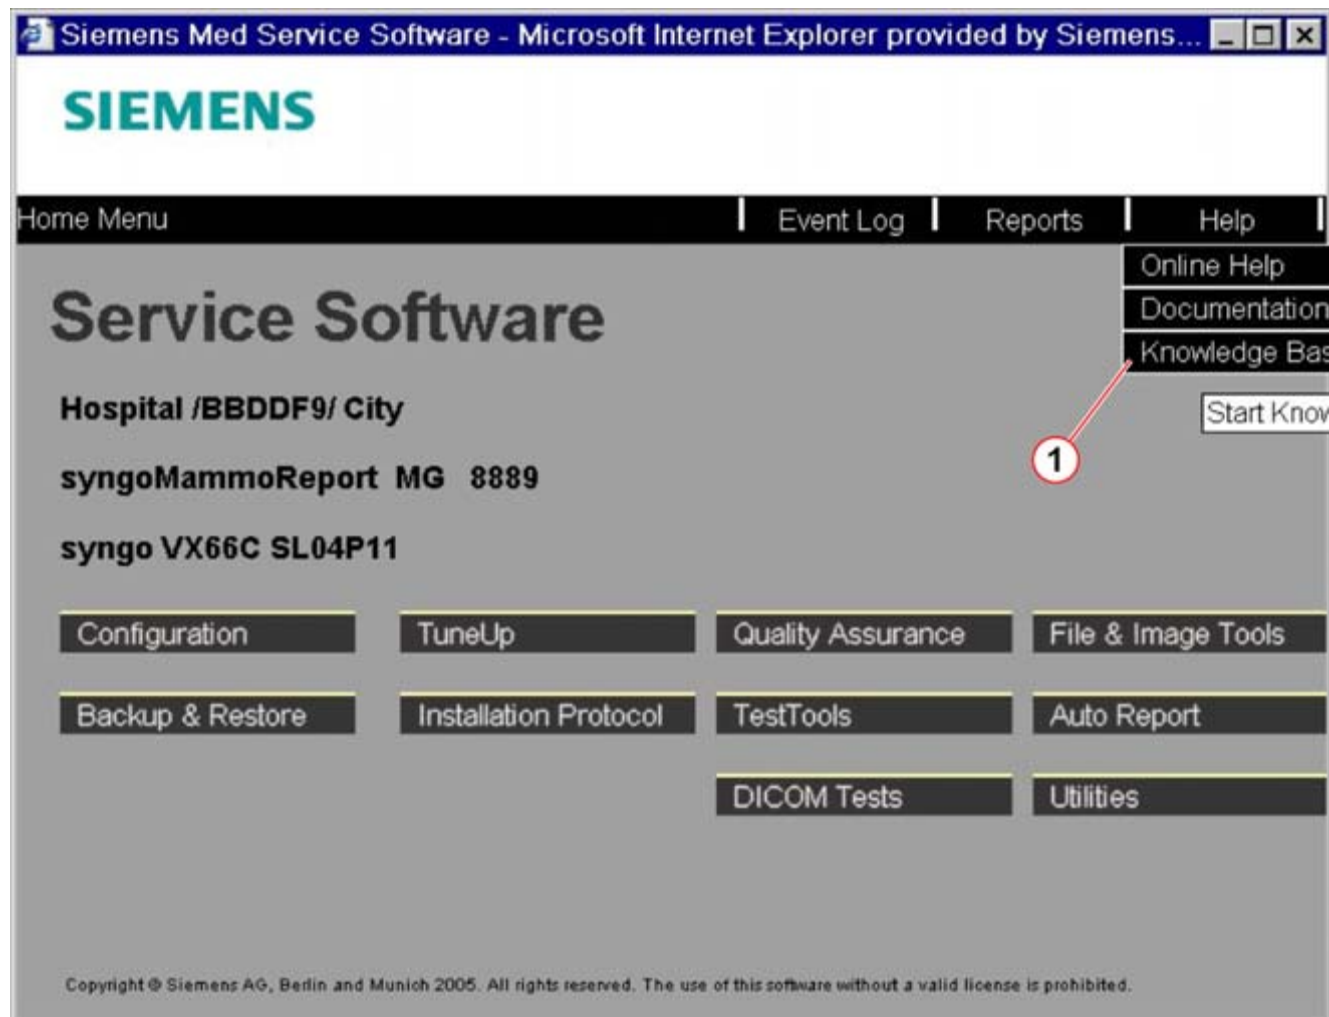

Fig. 16: Starting the knowledge base in syngo
2. Click on (1/ Fig. 16 / p. 36)